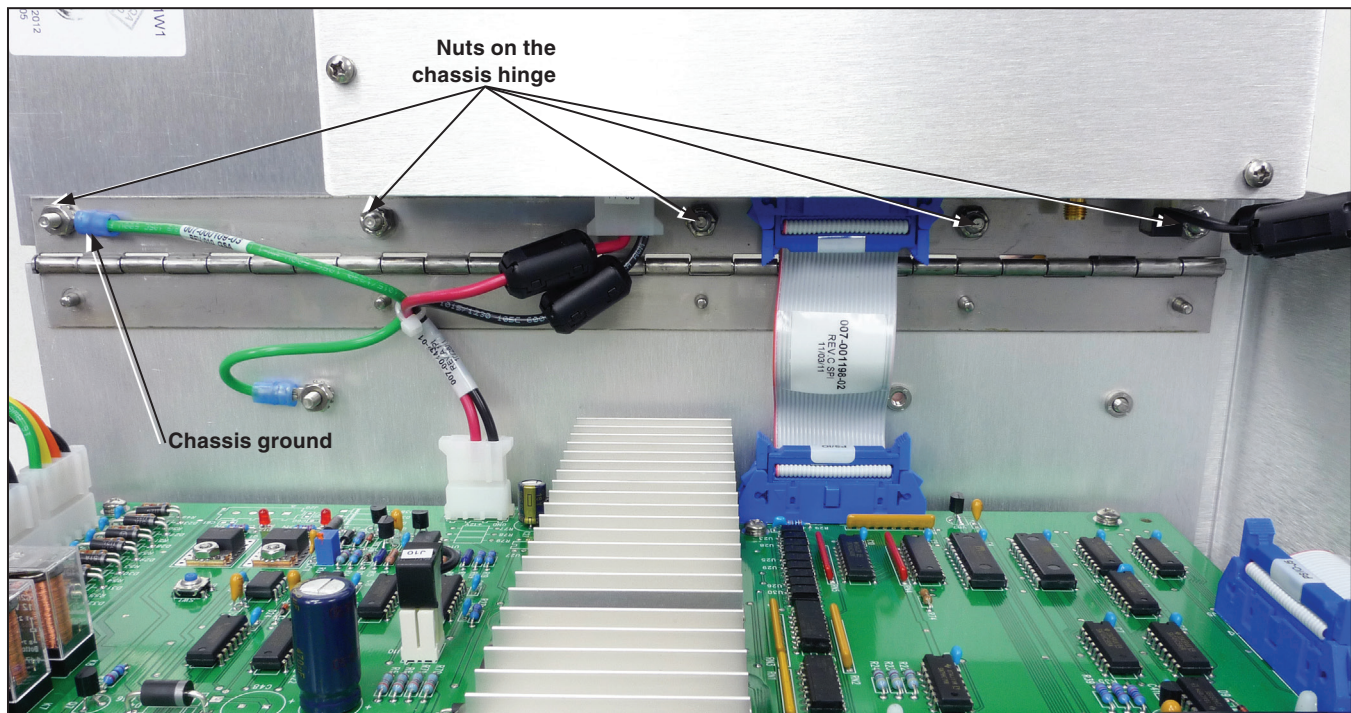

Figure 2. Five nuts that hold the front panel to the chassis hinge.
- STEP 4.** Remove the nuts that hold the front panel studs to the chassis hinge. Remove the chassis ground wire. See Figure 2.
- STEP 6.** Insert the 6802/3 control's front panel studs into the hinge holes, and secure the panel with the new nuts on the second through fifth studs from the bottom. Install the chassis ground wire and nut on the bottom stud, and tighten all nuts. See Figure 2. Discard the original mounting nuts.